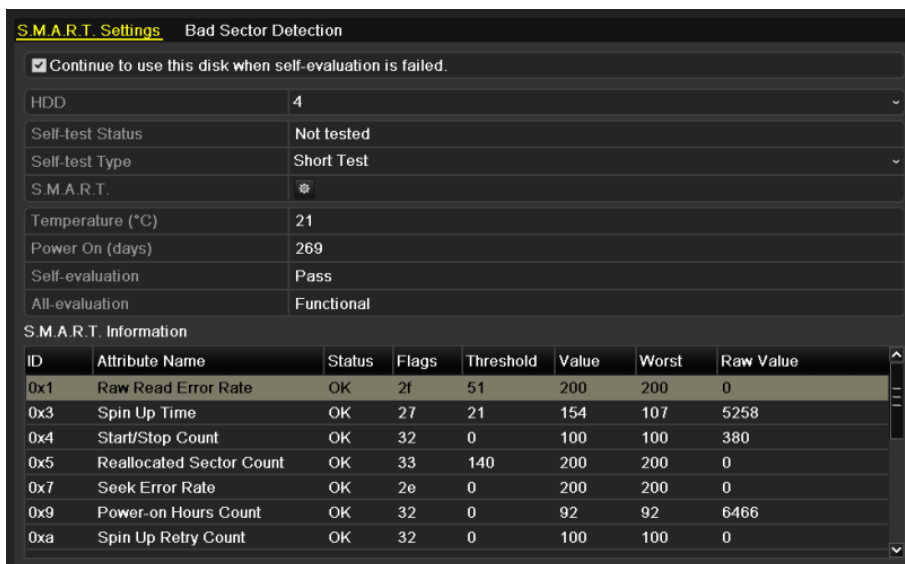

Figure 14-27 S.M.A.R.T Settings Interface
Step 2 Select the HDD to view its S.M.A.R.T information list, as shown in Figure 14-27.